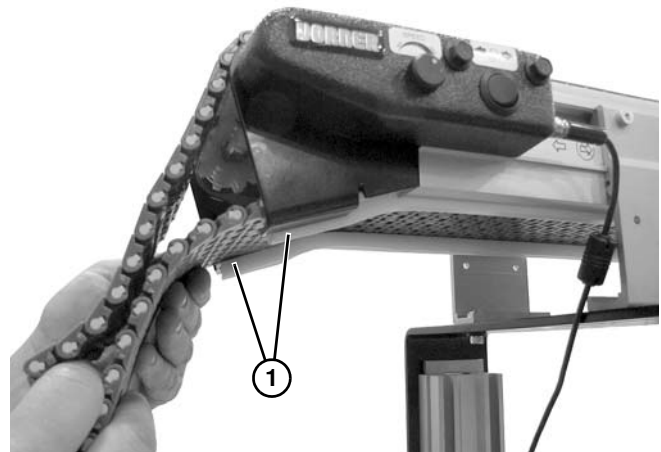

Figure 12
3. Feed belt into bottom wear strips (**Figure 12, item 1**) and pull through to the far end.